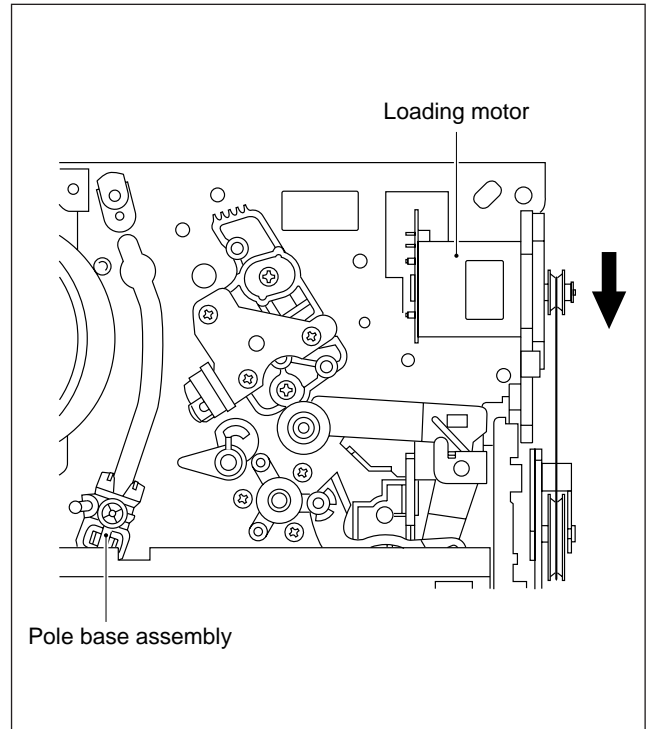

Fig. 2-1-3a
- (1) Unplug the power cord plug from the power outlet.
- (2) Refer to the disassembly procedure and perform the disassembly of the major parts before removing the drum assembly.
- (3) Unload the pole base assembly by manually turning the loading motor of the mechanism assembly toward the front. In doing so, hold the tape by the hand to keep the slack away from any grease. (See Fig.2-1-3a.)
- (4) Bring the pole base assembly to a pause when it reaches the position where it is hidden behind the cassette tape.